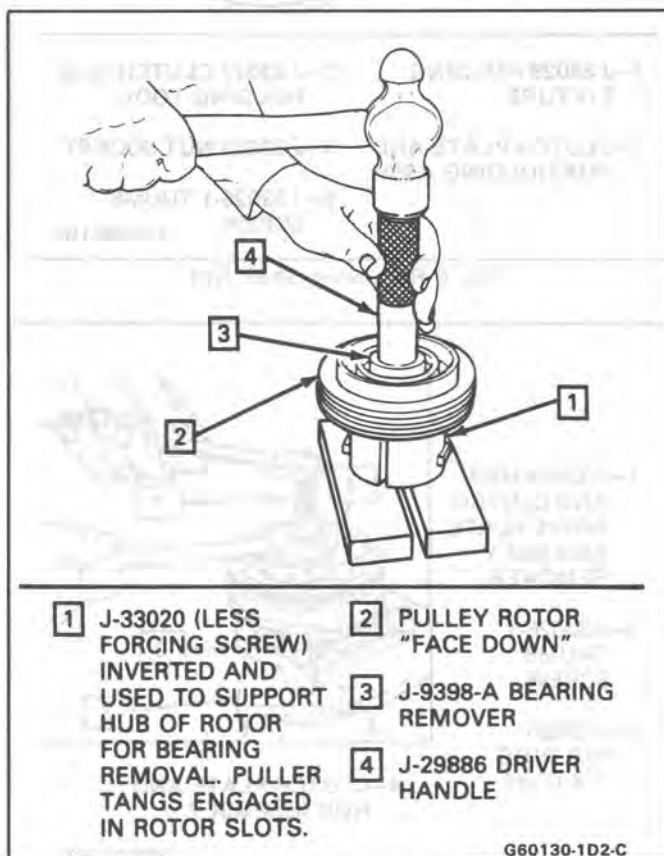

Fig. 13 Pulley Rotor Bearing Removal
- Remove the forcing screw from J-33020 puller and, with the puller tangs still engaged in the rotor slots, invert the assembly onto a solid flat surface or blocks as shown in Fig. 13.
- 6. Drive the bearing out of the rotor hub with rotor bearing remover J-9398 and J-29886 universal handle (Fig. 13).